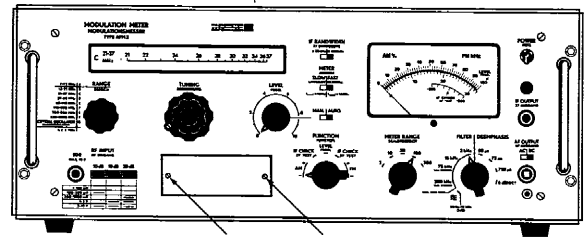

Fig.E5. The arrows show screws and plate to be removed when a plug-in unit is to be used.
Crystal Oscillator Unit is to be placed (see Fig. E5).
- 1) Remove the two screws and the plate covering the receptacle in which the External-Oscillator Amplifier is to be placed (see Fig. E5).